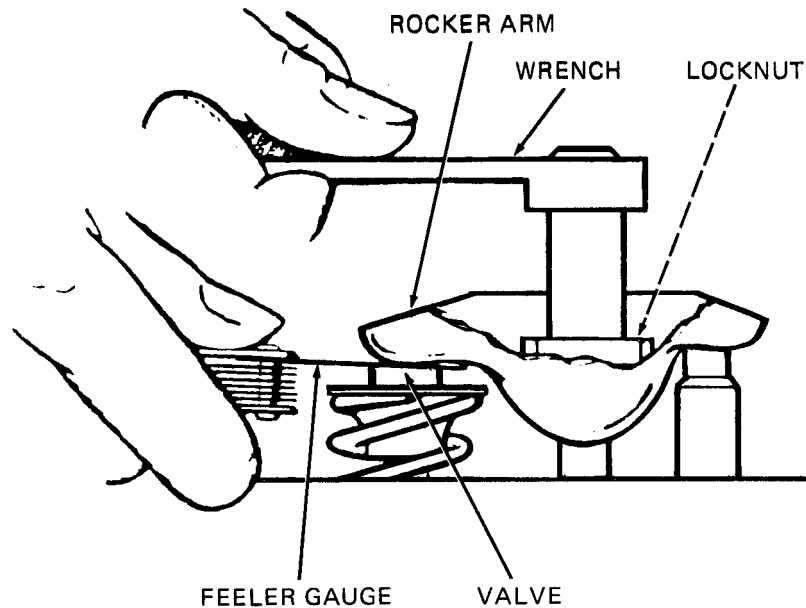

Figure 7-20. Adjusting Valve Clearance.
- (3) Loosen the rocker arm retaining nuts (7, Figure 7-18) until the rocker arms move freely. Now tighten the rocker arm retaining nuts until there is 0.001 in. (0.25 mm) clearance between the valve stem and rocker arm. Use a feeler gauge to measure clearance (see Figure 7-20).